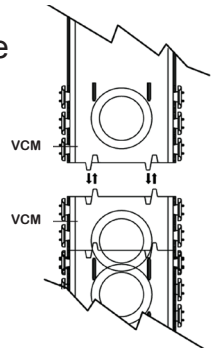

FIGURE 4
4. To mount the second section, carefully align the tabs on the two sections (Figure 4) and attach to the upright.